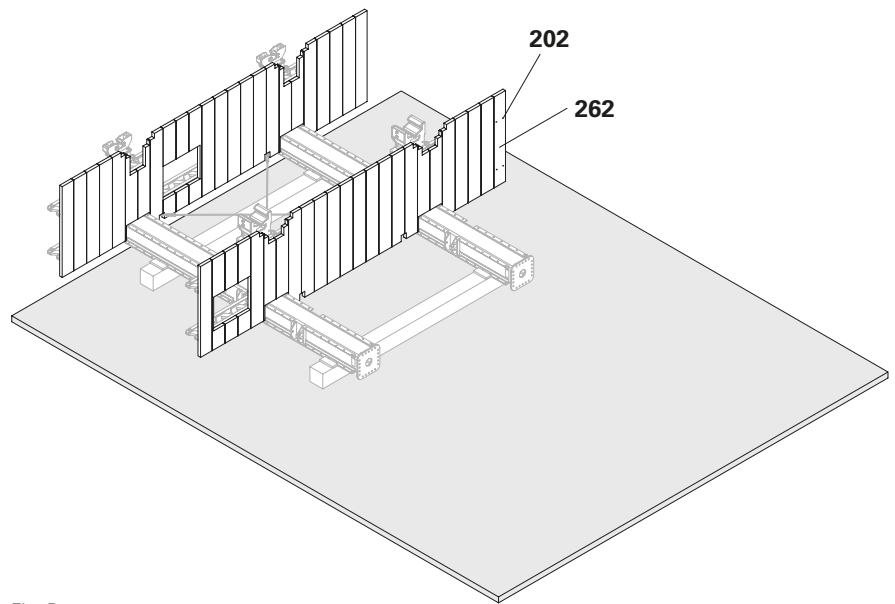

Fig. B4.15
12. Place the planking (**262**) on the Formwork Girders GT 24, align them and screw them tight with 2x Torx 6 x 80 (**202**) for each girder. (Fig. B4.15)